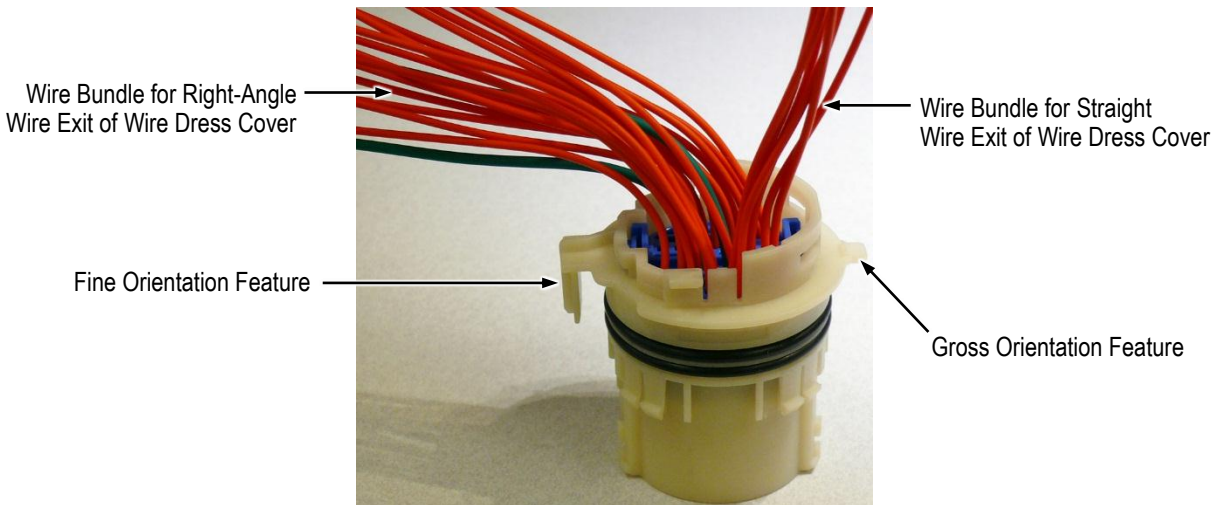

Figure 6
1. Bundle the wires to dress through the right-angle wire exit of the wire dress cover, and bend them toward the fine orientation feature of the cap housing. Bundle the remaining wires, which will be dressed through the straight wire exit of the wire dress cover, and bend them toward the gross orientation feature of the cap housing. See Figure 6.